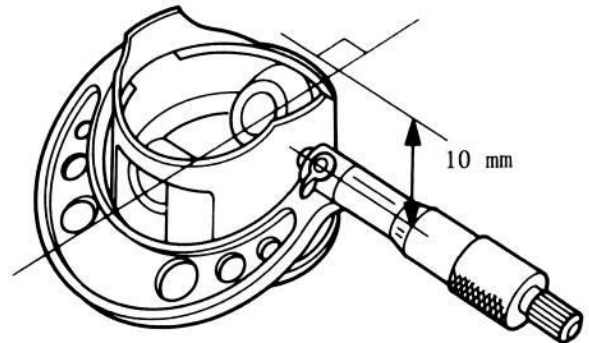

Figure 4-33: Piston Skirt Measurement
1. See Figure 4-33. Measure the piston skirt outside diameter at 10 mm from the bottom of the piston skirt as shown, 90° from the piston pin.